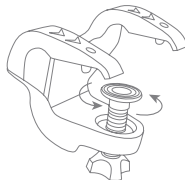

Figure 2
Step 2. Turn the clamp screw until the base is firmly connected. (See Figure 2):